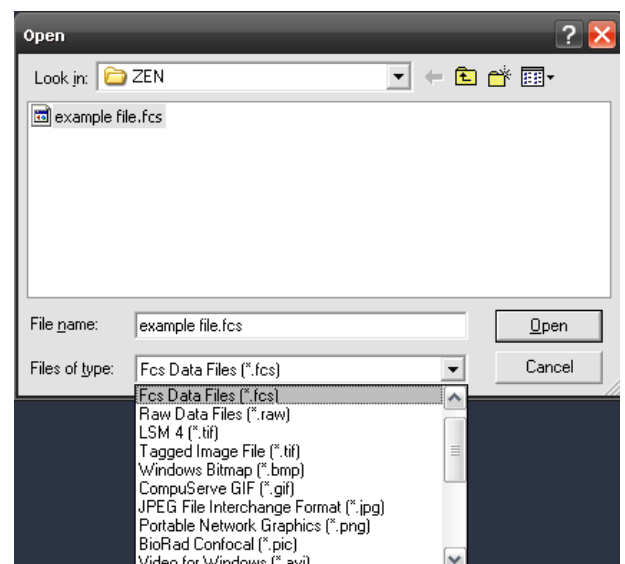

Fig. 86 Open dialog
- Go to **File** and then choose **Open**. This will open the Open Dialogue Box for the selection of drives, directories and subdirectories in which data files have been stored (Fig. 86).